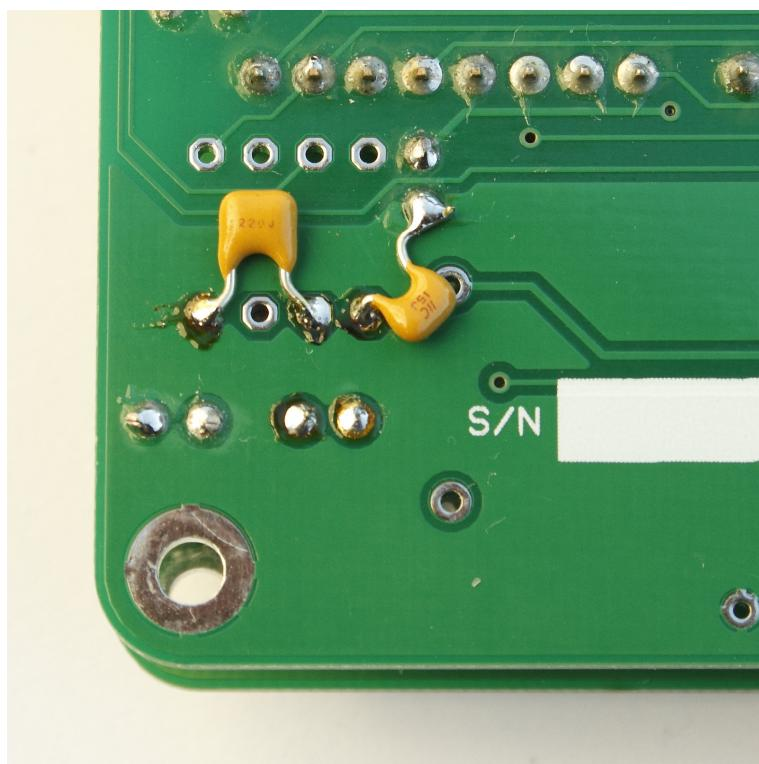

Figure 4.3: Real-time clock load capacitors (Calunium v 2.0).
22. C17, C18 (15 pF). Do not fit if using DS1338-33 RTC. For Calunium version 2.0 the capacitors must be fitted on the reverse side of the board (see Figure 4.3 as no specific mounting holes exist (error caused by using an earlier, incorrect datasheet which did not show the load capacitors)).
26. Battery (CR2032). Check that the battery backup pin (3) on the RTC measures 3.0 V.